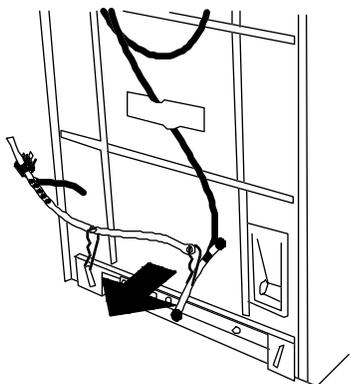

Fig. 1-1
- a. Carefully read, then remove the yellow label securing the power supply cord to the back of the washer. (Fig. 1-1)